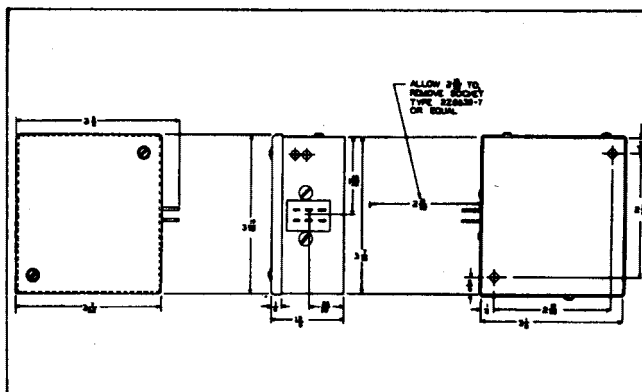

Figure 2-9. Microphone Adapter M-299
(2) **CARBON TYPE.**—Connect the carbon type microphone through Microphone Adapter M-299 (see figs. 2-9 and 2-12) to the jack box.